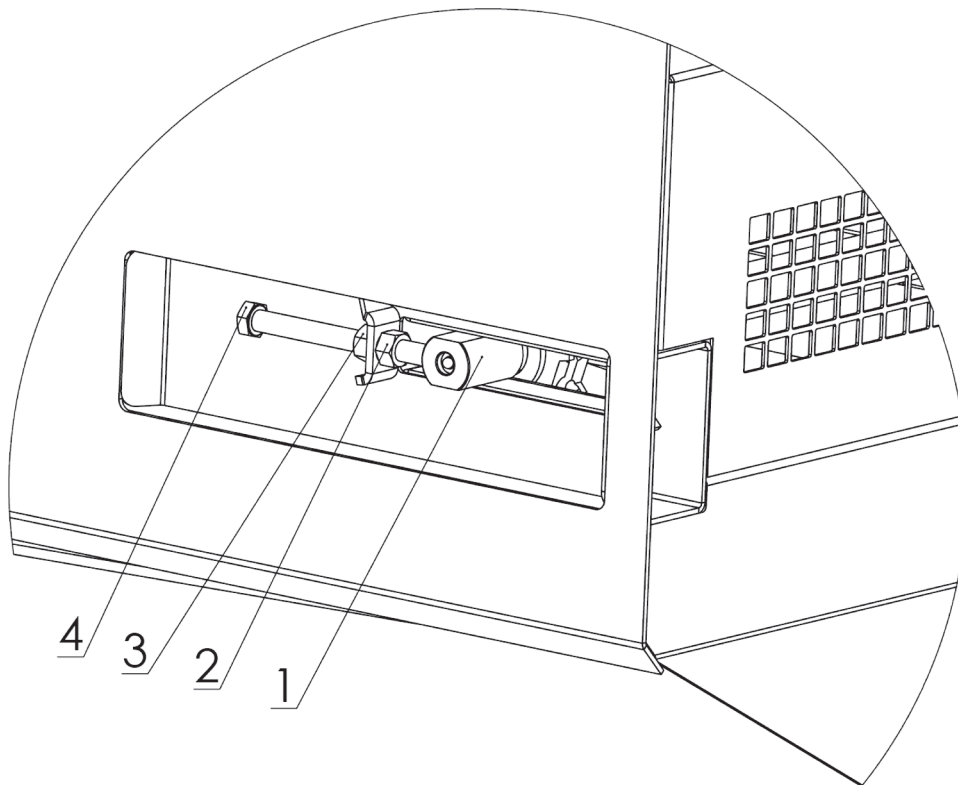

Fig. 4. Tensioning the conveyor chains.
The conveyor chains are adjusted by the stretcher screws (see fig. 4 item 1) located on the front panel of the spreader. The tension of the chains is verified by lifting the chain at the middle of the body floor length. The distance of the chain from the floor should be 1–6 cm when lifted. If the chain is lifted above the maximum stretcher adjustment value, replace the chain with a new one.
The tension of the chain (4) that moves the strips (5) is adjusted with screws (1) (see Fig. 4).